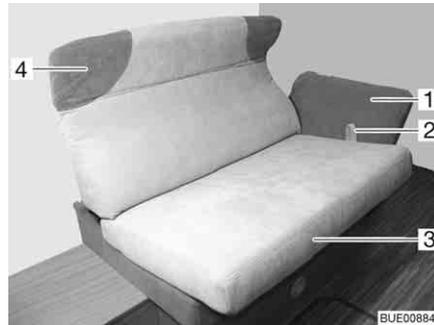

Fig. 87 Adjusting the divan
- Pull up the loop (Fig. 87,2) and carefully pull the seat (Fig. 87,3) along the rails as far as it will go towards the middle.
- Hold the neck cushion (Fig. 87,4) in both hands and carefully move it up or down to the right position.
- Hold the armrest (Fig. 87,1) in both hands and carefully move it up or down to the right position.